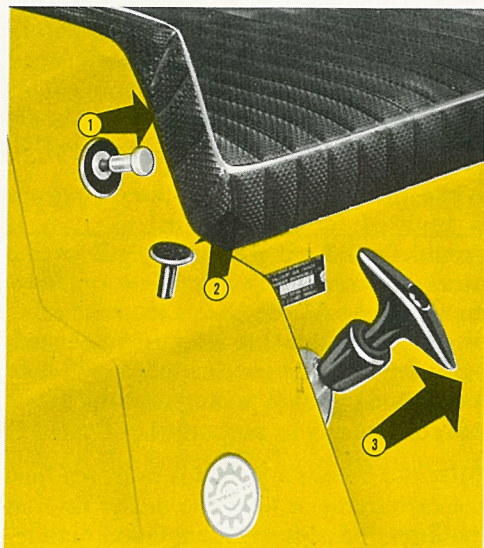

Figure 21
See fig. 21, item 1.
Pull out the choke knob. See fig. 21, item 2.
Grasp the starter handle firmly and pull slowly until you feel a resistance. This indicates that the starter mechanism is engaged; then, pull out vigorously. See fig. 21, item 3.